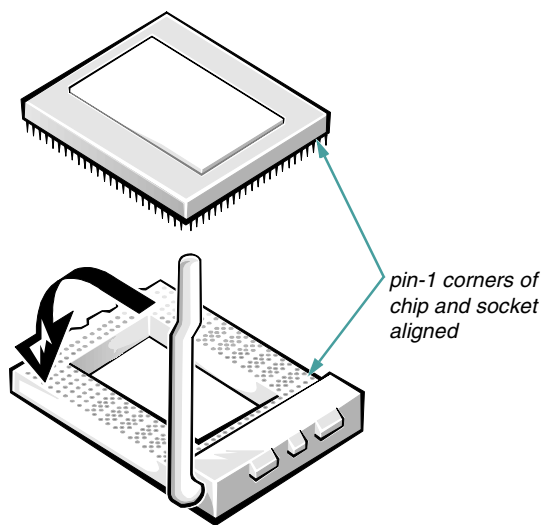

Figure 8-9. Installing the Microprocessor Chip
7. Install the microprocessor chip in the socket (see Figure 8-9).